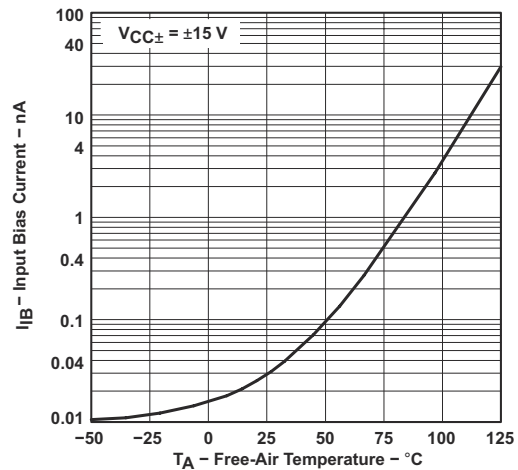

图 6-12. Input Bias Current vs Free-Air Temperature
- (1) All characteristics are measured under open-loop conditions with zero common-mode input voltage unless otherwise specified. Full range for T_A is 0°C to 70°C for TL06xC, TL06xAC, and TL06xBC and -40°C to 85°C for TL06xI.
- (2) Input bias currents of an FET-input operational amplifier are normal junction reverse currents, which are temperature sensitive, as shown in Fig 6-12. Pulse techniques are used to maintain the junction temperature as close to the ambient temperature as possible.
- (3) Assured by design and characterization; not production tested.
- (1) All characteristics are measured under open-loop conditions with zero common-mode input voltage, unless otherwise specified. Full range for T_A is 0°C to 70°C for TL06xC, TL06xAC, and TL06xBC and -40°C to 85°C for TL06xI.
- (1) This parameter is not production tested.
- (2) All characteristics are measured under open-loop conditions, with zero common-mode voltage, unless otherwise specified.
- (3) Input bias currents of an FET-input operational amplifier are normal junction reverse currents, which are temperature sensitive, as shown in Fig 6-12. Pulse techniques are used to maintain the junction temperature as close to the ambient temperature as possible.
- (4) Assured by design and characterization; not production tested.